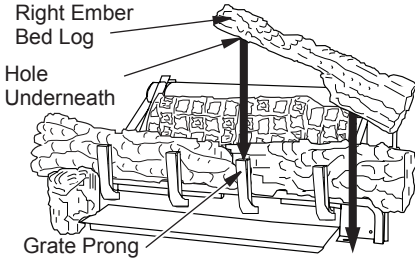

Figure 30 - Installing Right Ember Bed Log
4. The right ember bed log has a hole in the bottom that sets on the grate finger and the other end rest on the fireplace floor, place log as shown in Figure 30, page 20. The back side of this log needs to rest against the front of the base assembly, make sure the flame from the ember pan does not touch the ember bed log.